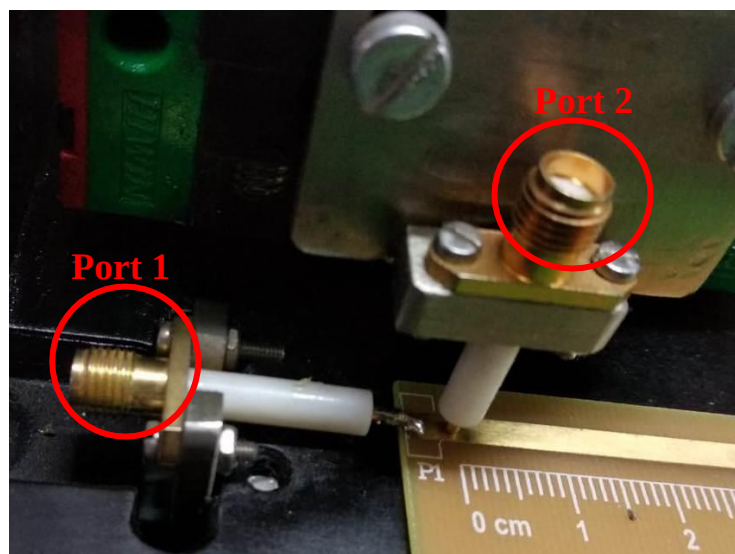

Fig.1
3. Connect the RF output of the Motorized Microstrip Transmission Line Trainer (**RF OUT**) to the port 1 (Fig.1) of the transmission Line JIG using 1 meter SMA(m) to SMA (m) Cable (i.e. Signal generated by RFL-MMTLT RF Signal Generator is applied as input to the transmission line)
4. Connect the RF DETECTOR (RF IN) on the Control Unit to Port 2 of the transmission line JIG as shown in (Fig.1) using 2 meter SMA (m) to SMA (m) Cable .